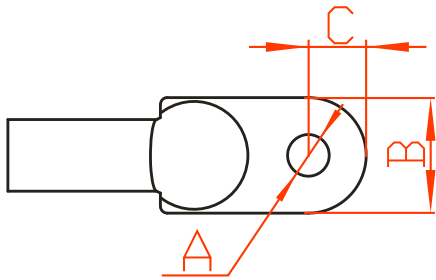

Figure3-29 Terminal size requirements
- When the AC output uses copper wire, it is recommended to use DT/OT terminals (as shown in Figure3-29). The terminal size requirements are:  $13\text{mm} \leq A \leq 15.5\text{mm}$ ,  $B \leq 46\text{mm}$ ,  $C \leq 22\text{mm}$ .